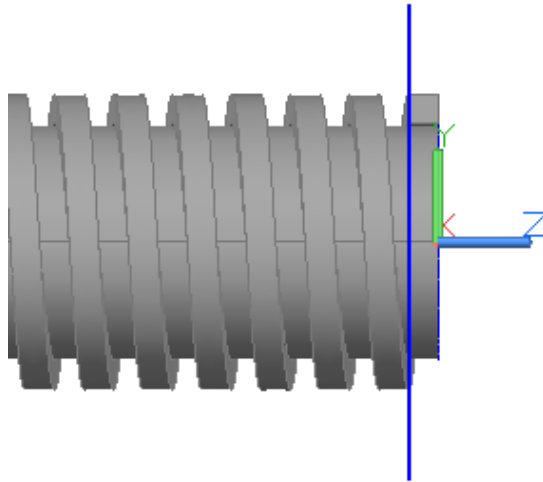

Figure Step 16
Step 16 Using the MOVE command, move the 2 inch diameter circle 0.125 inches in the negative Z direction. Using the SLICE command, as shown below, slice the solid model using the 2 inch diameter circle as the Object to create a plane at the slice location. (Figure Step 16)